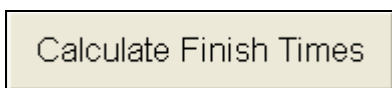

Figure 16.1.12A
9. You can calculate finish times by clicking on the **Calculate Finish Times** button (Figure 16.1.12A).